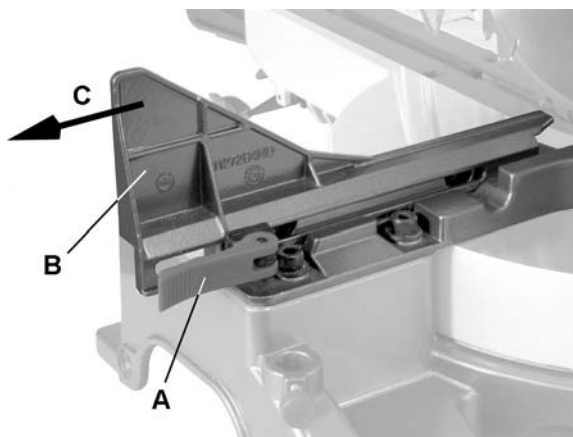

Figure 24
To adjust the sliding fence (refer to Figure 24):
1. Unlock the *fence cam locking lever* (A) (shown locked in Figure 24) by pushing it toward the rear of the machine.
2. Extend the *fence* (B) by sliding it out (C) to ensure that the blade will clear the fence for degree of the bevel cut selected. Lock the *fence cam locking lever* (A) as shown.